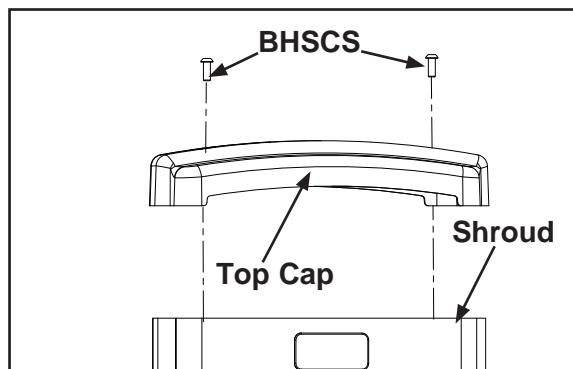

Figure 1
A. Using a 7/32" Allen wrench, remove the two Button Head Socket Cap Screws (BHSCS) securing the top cap to the frame. See Figure 1.